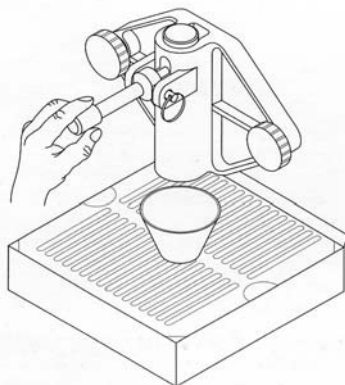

Fig. 4
2. Dispense all product from the freezing cylinder by pulling downward on the spigot handle (Fig. 4) to empty the machine.
- Install the drip tray and drip tray insert (Fig. 4).